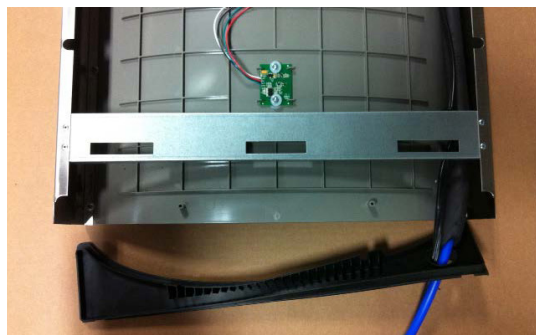

Fig. 10
- 5) **Feed power cord & 3/8" water line** through hole in tower/basin gasket (See Fig 10).